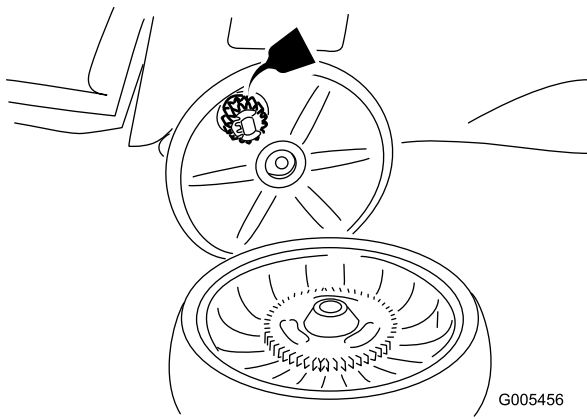

Figure 29
2. Apply a lubricating oil to the inner and outer sides of the gear as shown in Figure 29.